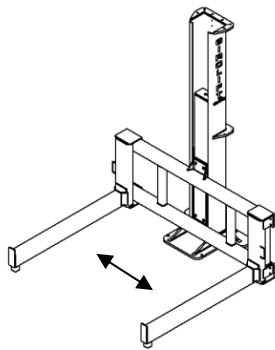

FIGURE 11 : OPENED FORKS POSITION
1. CHECK IF THE FORKS SLIDE ON THE FORK HOLDER. SEE **FIGURES 11** AND **12**.